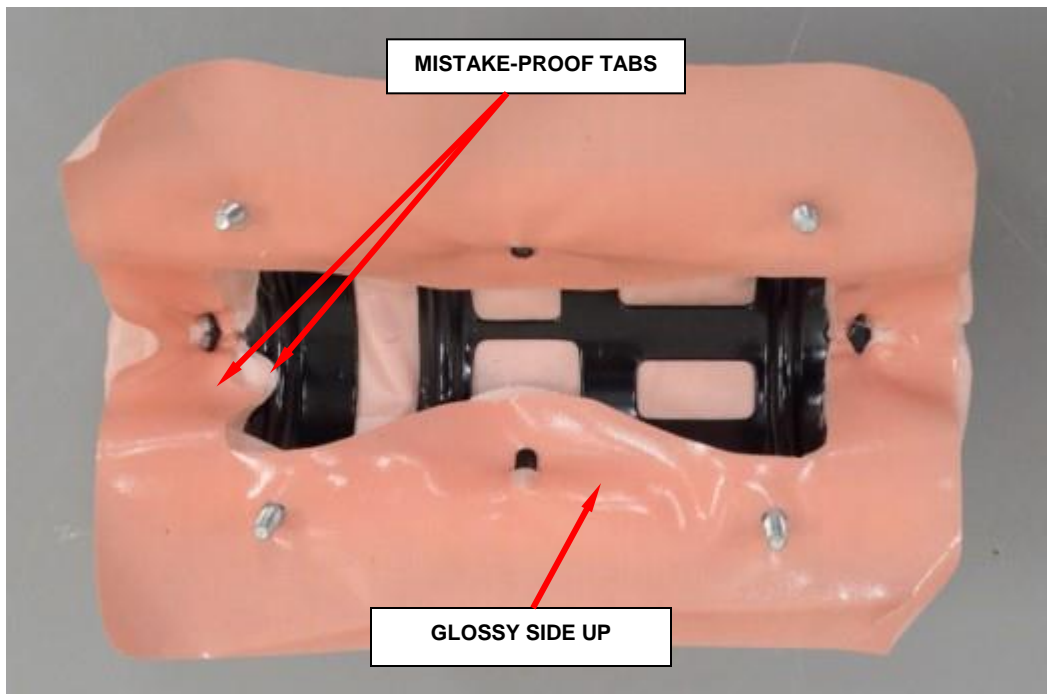

Figure 155 – Fabric Gasket to Cushion (Glossy Side Up)
- i. Place the fabric gasket, glossy side up, onto cushion. Mistake-proof tab should be aligned to the tab on the cushion (Figure 155).